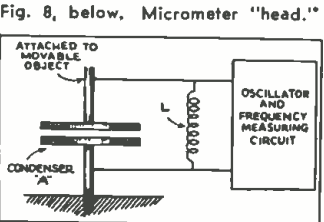

Fig. 8, below. Micrometer "head."
**ELECTRICAL MICROMETER.** Many requests have been received for a circuit of an "electrical micrometer." Figure 9 shows such a circuit, while Fig. 8 gives a detail of the micrometer "head." The arrangement consists of 2 oscillators, one of which is fixed. The variable oscillator is connected to, and tuned by, the plates of the micrometer. Moving the top plate and thus changing the capacity, changes the frequency of oscillator V1, this change causing galvanometer G to move. This particular equipment works on 2,000 kc. No constants are given since the technician will doubtless have his own ideas about them.